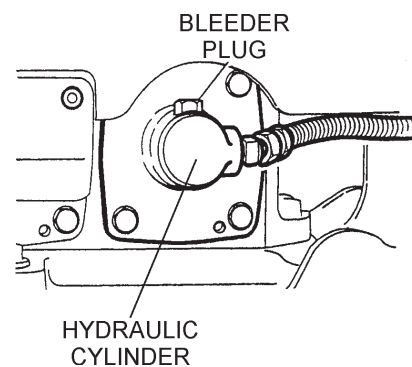

**Figure 34. Hydraulic Oil Maintenance**
2. Using a funnel, add **ShellTellus Oil #46** or equivalent to the hydraulic oil tank through the oil filler port (Figure 34). Oil tank capacity is 50.7 fl. oz (1500 cc)